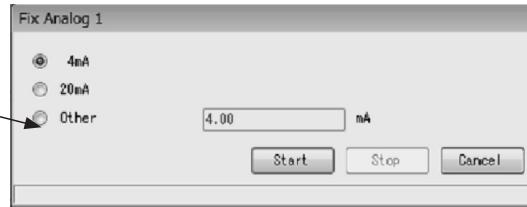

Fig.127
- ① Click the "Diag/Service (T)" menu, and then select and click "Fix Analog 1" from the "Loop Test" drop-down list.
- ② The following window will be displayed (Fig. 127). Select the simulated output value and click the "Start" button. To pick another current value to output, select "Other" and click the "Start" button after inputting the analog value.
- ⑥ Clicking the "OK" button would return the interface to the window shown in Fig. 127, so click the "Cancel" button to exit "Fix Analog".